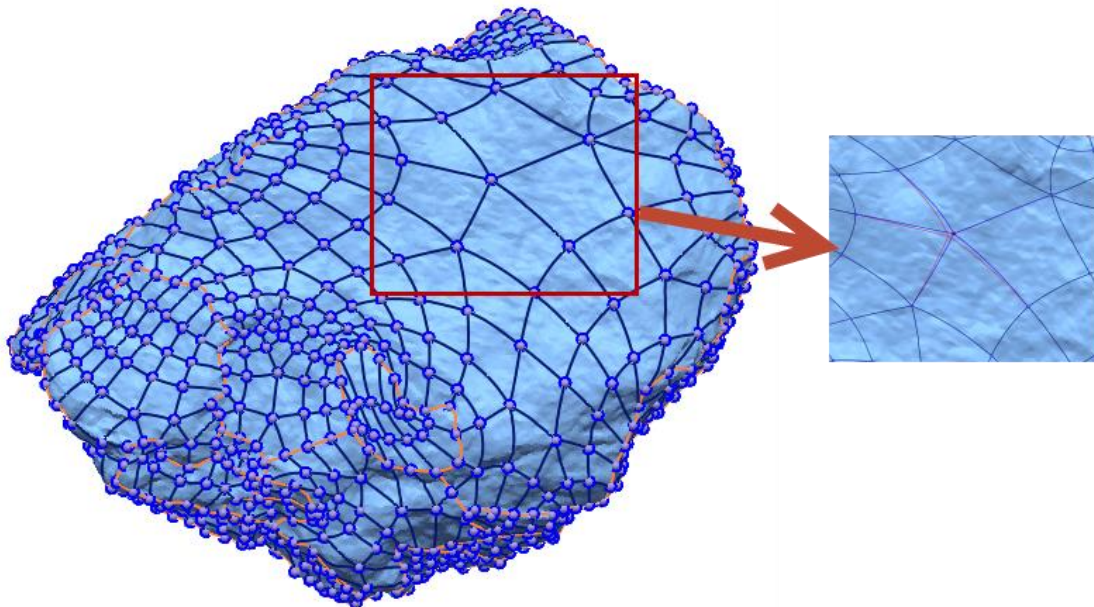

Figure 76
- Zoom in to the area shown in **Figure 76**.